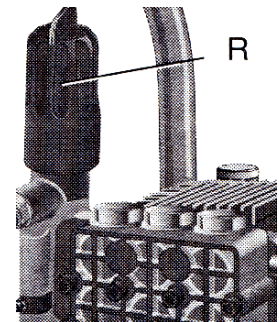

Fig. 14: Pressure Regulator Knob
- o Adjust the pressure regulator knob. Turn the pressure regulator knob (R) counter-clockwise to lower the pressure (Fig. 14). The minimum pressure is in the 500-700PSI range. Return to full pressure when done. Do not turn past built-in stop or pump damage can result.
- b. Return Pressure Regulator knob (Fig. 14) to full pressure if it was adjusted. Turn clockwise.